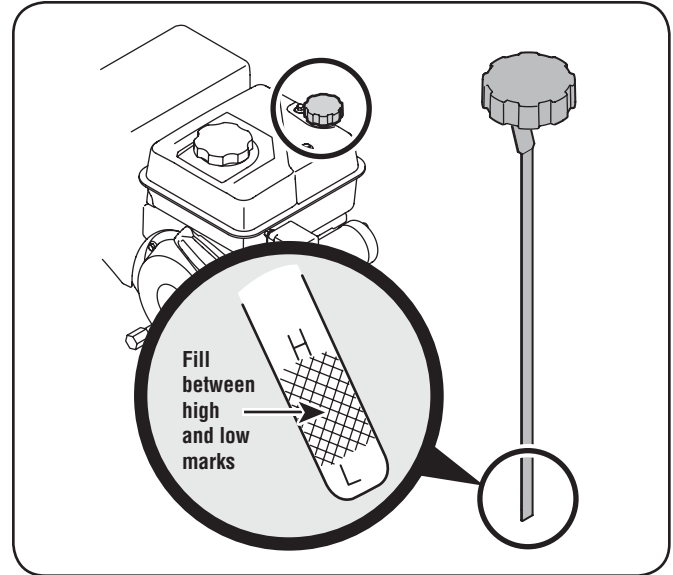

Figure 3-9
1. Remove the oil filler cap/dipstick and wipe the dipstick clean. See Fig. 3-9.
3. Remove the oil filler cap/dipstick. If the level is low, slowly add oil until oil level registers between high (H) and low (L), Fig. 3-9. Refer to the Engine Maintenance section for correct oil viscosity and engine oil capacity.